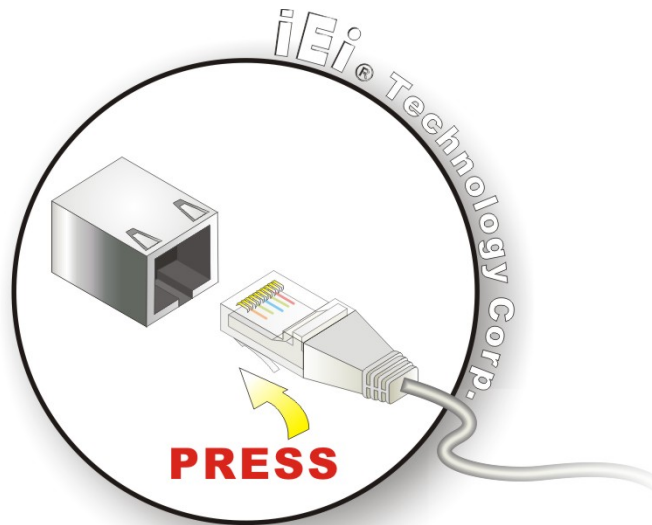

Figure 4-12: LAN Connection
- Step 2:** Align the connectors. Align the RJ-45 connector on the LAN cable with one of the RJ-45 connectors on the PCISA-PV-D4251/N4551/D5251. See **Figure 4-12**.